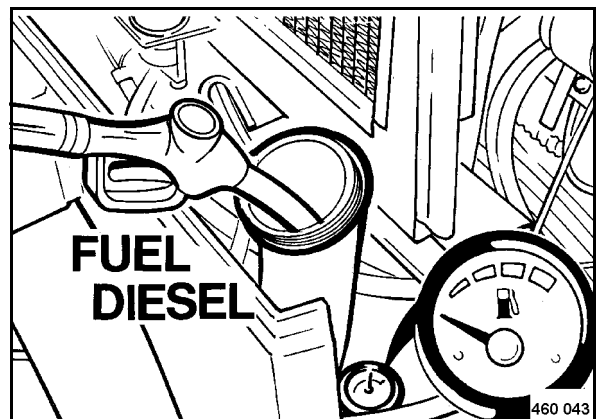

Fig. 79
- Check the fuel level on the fuel gauge (Fig. 79).